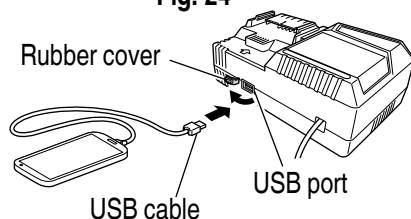

Fig. 25
- (2) Connect the USB cable. (**Fig. 25**)